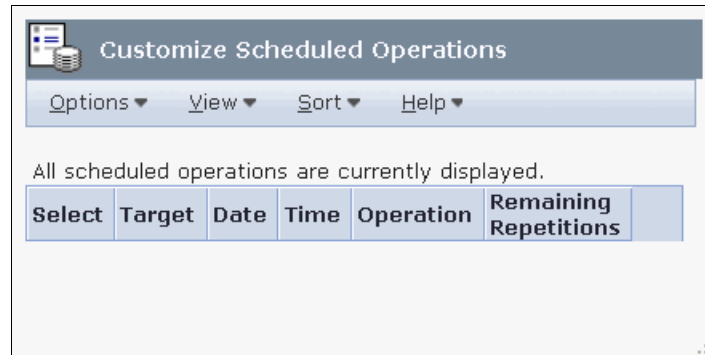

Figure 6-46 Customize Scheduled Operations window
1. In the Customize Scheduled Operations window, select **Options** → **New** (Figure 6-46).